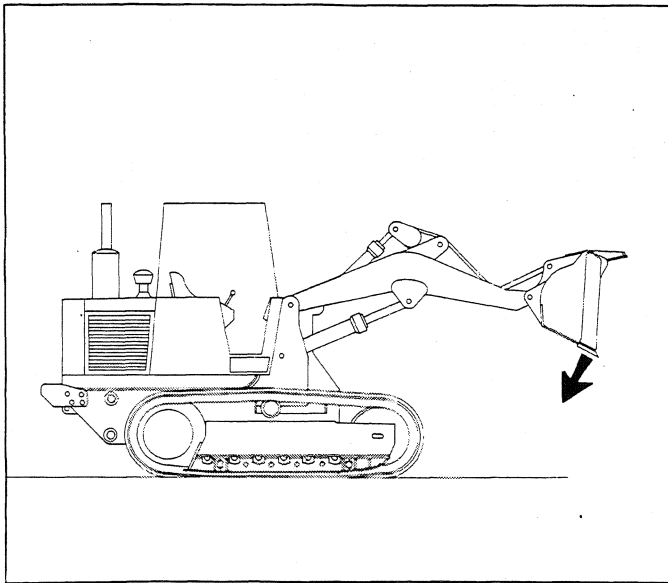

Fig. 7C
Shifting the lever into position (C) will cause the bucket to open (fig. 7C).